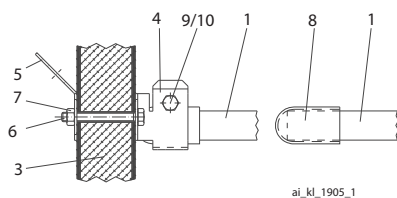

figure 2
Tighten the mounting bracket (4) and the support bracket (5) **fig. 2** with screws (6) only so far that the mounting bracket and support bracket do not dig into the chimney wall (3). Self-locking nuts (7) are used for securing the screws. The enclosed protective caps (8) are to be pushed onto the ends of the fan supports (1), **fig. 2**.
Feed the fan (1) into the chimney in accordance with **fig. 3**, and center it in the mounting bracket (4). In addition, the support is to be secured in accordance with **fig. 2** by using bolts (9/10).